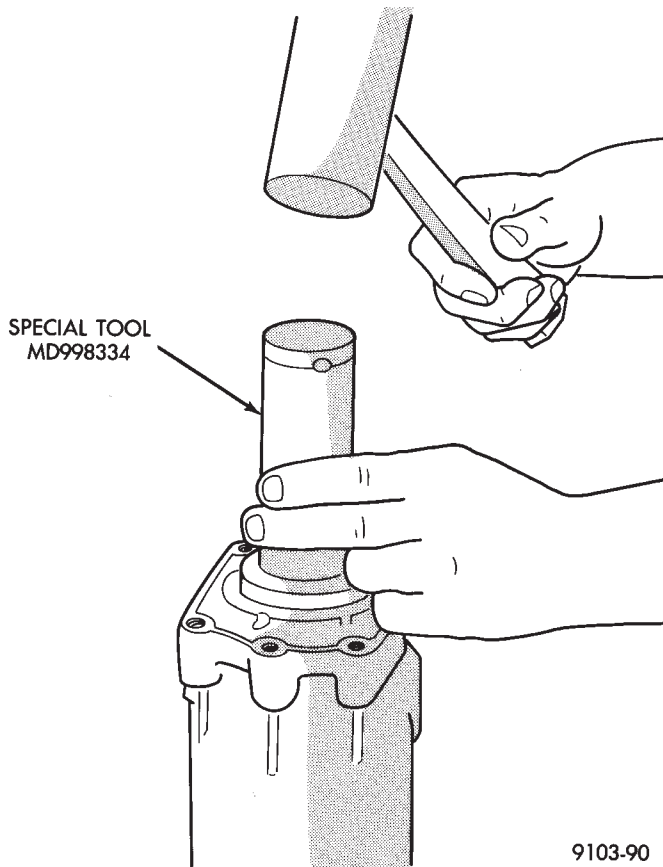

Fig. 24 Installing New Seal
(1) Install new seal with special tool MD998334. Seal should be flush with outside edge of housing (Fig. 24).
(2) Install rear torque shaft bearing and snap ring.
(3) Install overrunning clutch case onto torque tube. Tighten bolts to 28 N•m (250 in. lbs.).